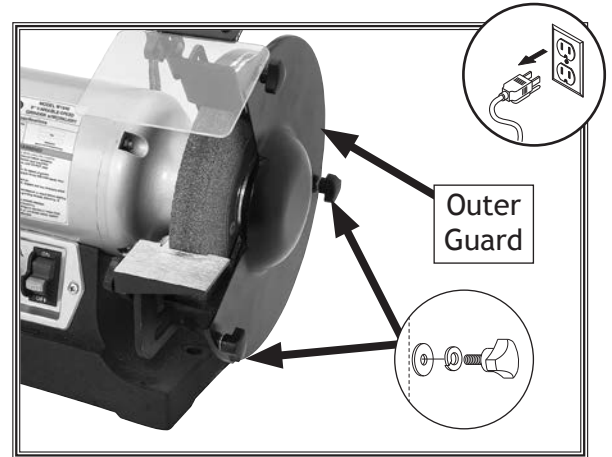

Figure 18. Location of outer guard hardware that must be removed when removing wheel.
2. Remove outer guard by removing (3) knob bolts, (3) 6mm lock washers, and (3) 6mm flat washers that secure outer guard (see Figure 18).